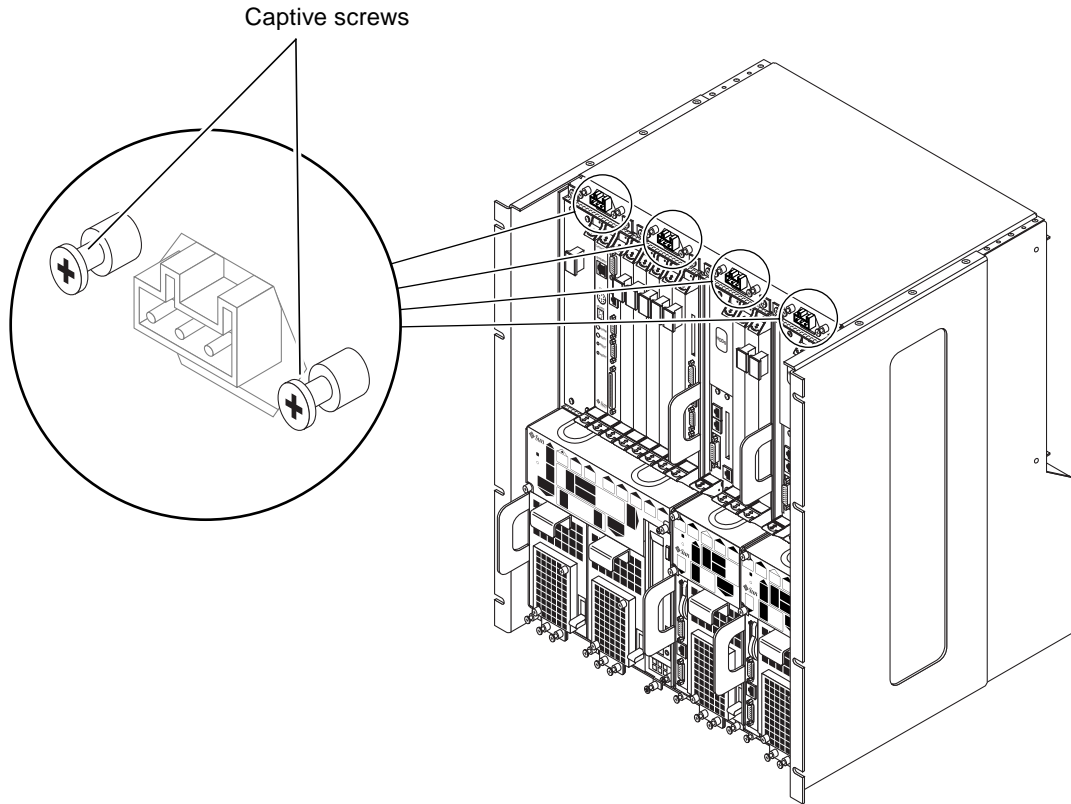

FIGURE 11-13 Loosening the Front-Access Cable Screws
2. Insert the other end of the front-access cable through the holes at the top of the chassis (FIGURE 11-13).
3. Tighten the two captive screws to secure the cable to the chassis (FIGURE 11-13).